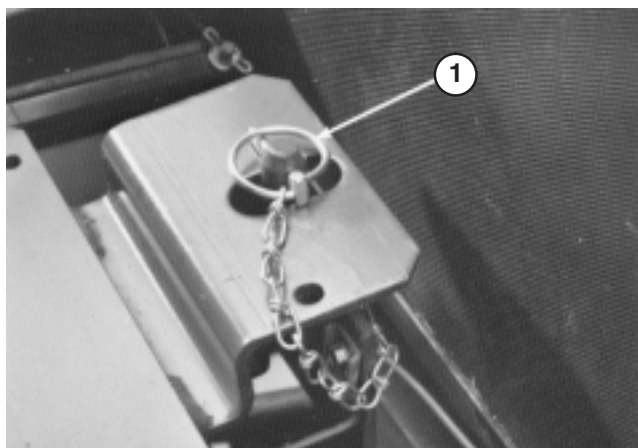

Figure 13
- Disengage seat support rod and pivot downward. Pivot seat down and push lynch pin through seat latch stud. Flip wire end of pin over latch stud (Fig. 13).